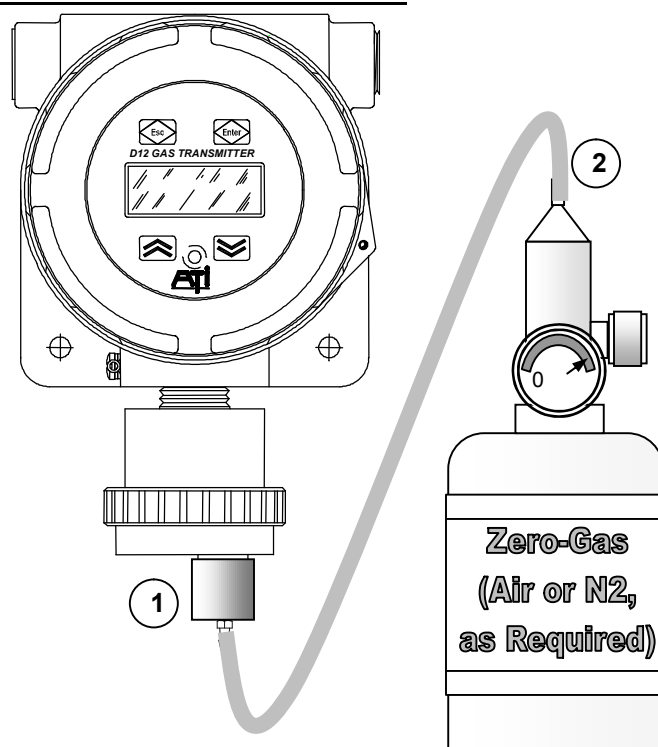

Figure 34. Zero calibration
Referring to Figure 34, push the calibration adapter onto the exposed end of the sensor and connect one end of the tubing (1), connect the other end of tubing to the cylinder’s regulator (2). Do not open the gas valve until instructed below.